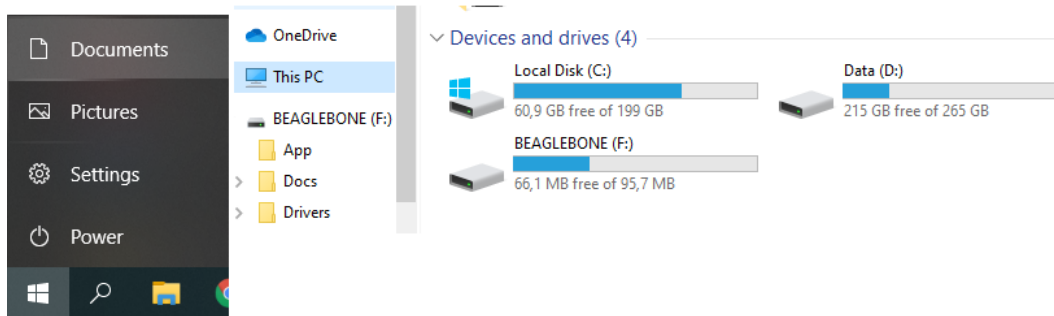

Figure 1 – BEAGLEBONE folder
- A window automatically opens. It contains the filesystem of the BBB. In case the windows does not open, push the Windows button, then access the This PC folder, finally open the folder BEAGLEBONE(F:). See the Figure 1